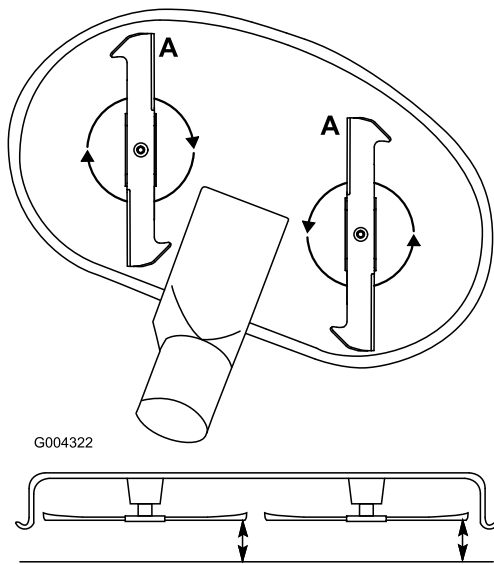

Figure 47
- Rotate the blades until the ends face forward and backward (Figure 47). Measure from a level surface to the cutting edge, position **A**, of the blades (Figure 47). Note this dimension.